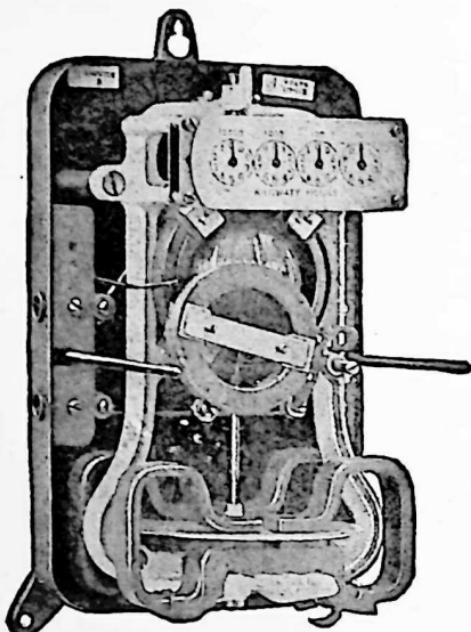

FIG. 77. Interior of General Electric Thomson watt-hour meter.
35. Watt-hour Meter. An instrument for measuring the electrical energy delivered to a customer is shown in Fig. 77. It is merely a small electric motor so arranged that the dials register the number of kilowatt-hours which pass through it. For a description of this instrument and a detailed explanation of the principle upon which it operates, see Chapter IX and the author's "Elements of Electricity."